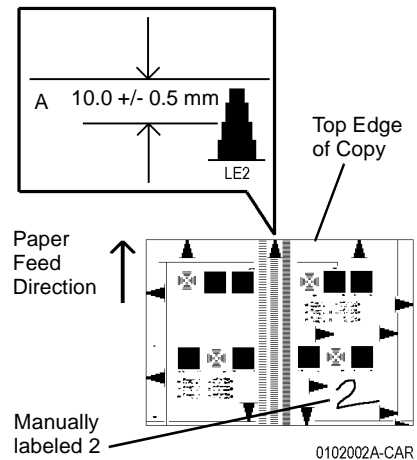

Figure 1 Verifying Top Edge Registration of DADF Originals
- a. On copy 2 measure and record the distance between the top edge and the reference line and write **A** next to this measurement (Figure 1).